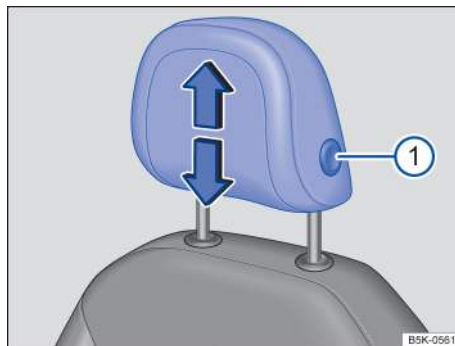
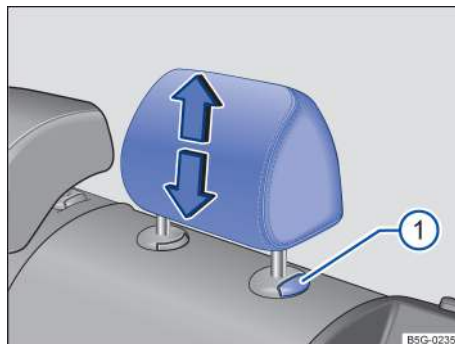

Fig. 70 Adjusting the front head restraints.
Fig. 71 Adjusting the rear head restraints.
- While pressing the button → fig. 70 ① or → fig. 71 ①, pull the head restraint up or push it down in the direction of the arrow →  in *Introduction* on page 108.